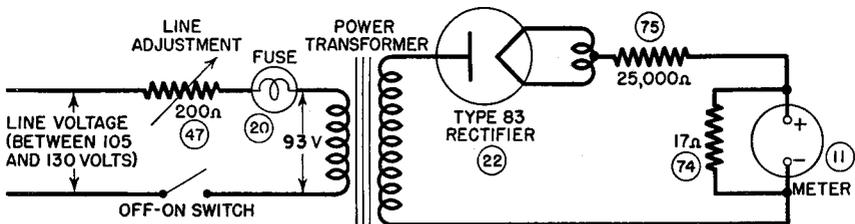

Figure 2. Tube Tester I-177, simplified line test circuit.
**13. LINE TEST (fig. 2).** Pushing the LINE TEST button connects the meter of the tube tester in series with the type 83 rectifier across a secondary winding of the power transformer, with suitable series and shunt resistors 75 and 74 in this calibrating circuit so the meter will receive a d-c voltage proportional to the a-c voltage across the transformer primary. Factory calibration is such that, when 200-ohm LINE ADJUSTMENT rheostat 47 in series with the power transformer primary is adjusted so the meter pointer is exactly at 1500 (near the center of the scale), the a-c input voltage of the transformer is exactly 93 volts, the value at which the instrument was designed to operate. A small automobile-type lamp 20 is included in the transformer primary circuit as the FUSE LAMP to protect the entire instrument from dangerous overloads. It will burn out during an overload. Setting the FIL. switch to the rated filament voltage value of a tube, followed by the setting of the LINE ADJUSTMENT